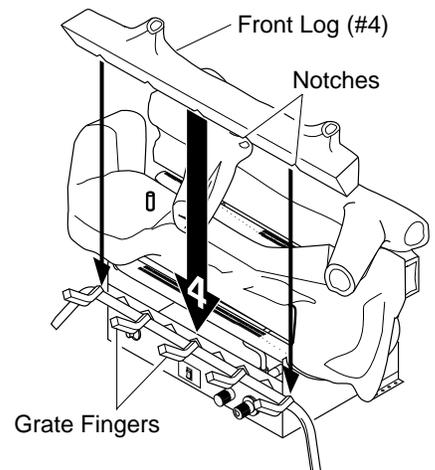

Figure 29 - Installing Front Log (#4)
4. Locate the notches in the bottom of the front log (#4). Place the front log on the grate fingers. Make sure the notches of the front log line up with the grate fingers (see Figure 29).